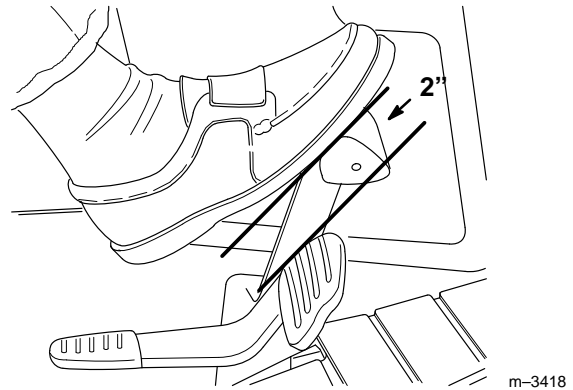

Figure 37
3. Depress the brake pedal. There should be 2” (51 mm) of free travel (Fig. 37) before the brake begins to engage.